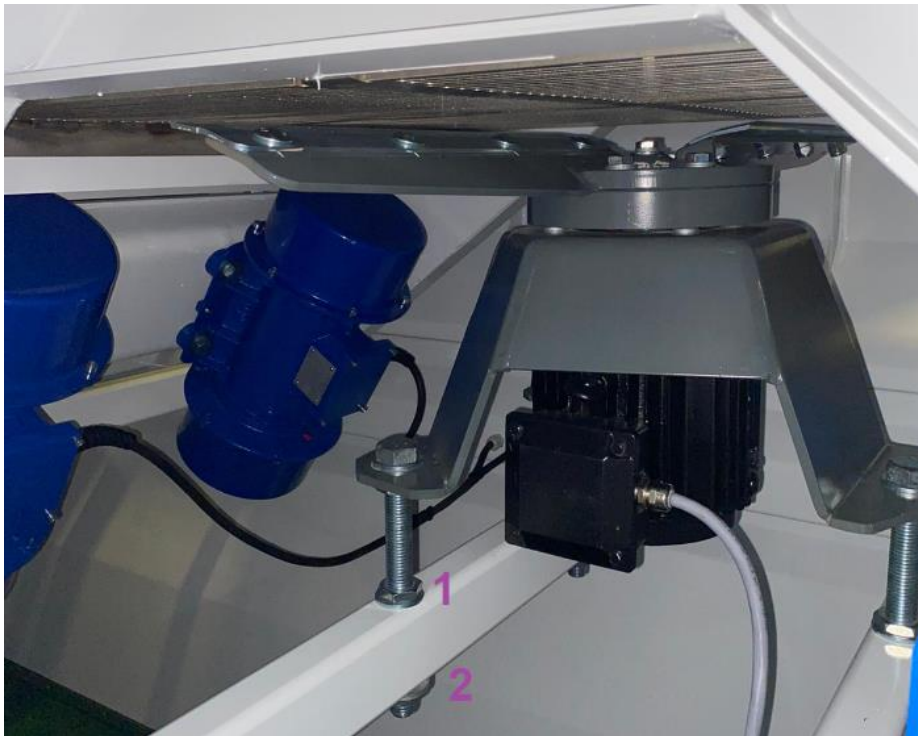

Figure 15. Topping length
PLEASE NOTE! Ensure that the blade is clear of the vibration frame. This is shown in Figure 15. Ensure that the clearance is 8 - 12 mm when the screen bed is unladen. This ensures the unimpeded rotation of the blade and prevents damage.
2. Unscrew nut number 2. Turn through the resistance created by the Nord Lock washers. Then, turn a few turns to create enough clearance (Figure 15).
4. Now, turn nut number 1 (see Figure 15) upwards in equal turns at all three points. A few turns is sufficient as only a few millimetres are needed. Doing this in equal turns will lower the cutting blade unit evenly and make alignment easier.